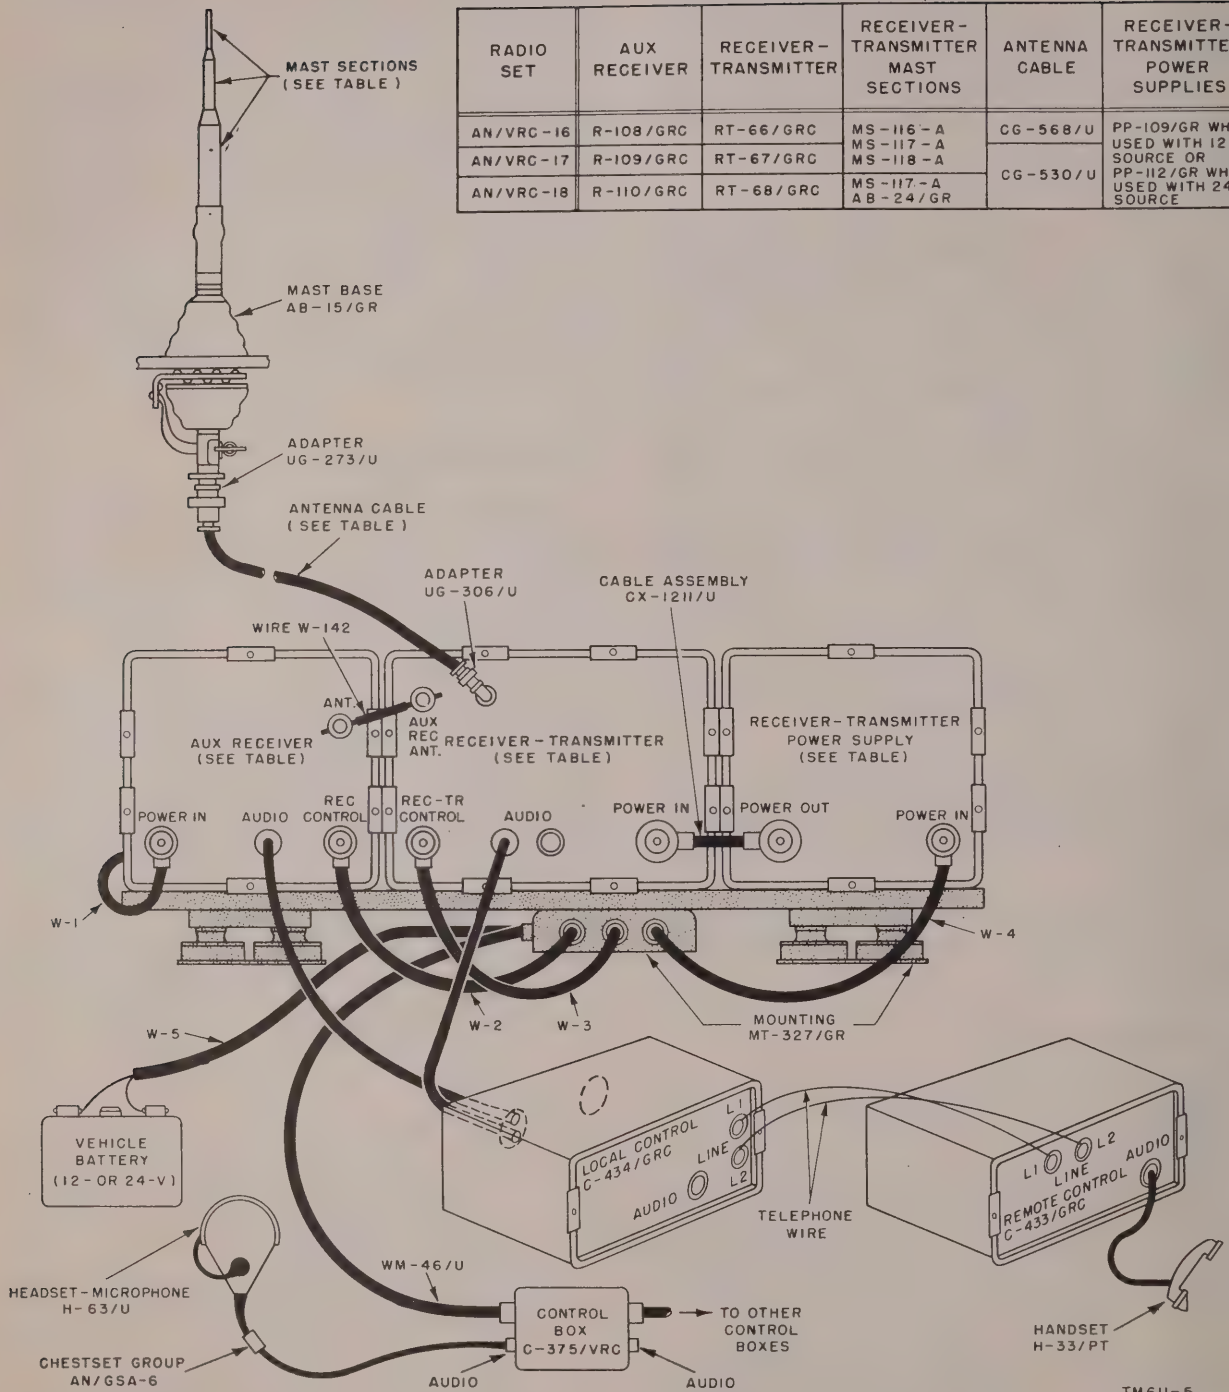

Figure 26. System cordage diagram.
(fig. 26)
c. Place and lock the receiver-transmitter on the mounting next to the power supply (fig. 26).
e. Place and lock the auxiliary receiver on the mounting beside the receiver-transmitter (fig. 26).
Make the system interconnections outlined below and illustrated in figure 26.
a. Connect Adapter UG-306/U to the ANT connector on the receiver-transmitter. Connect one end of the antenna cable (RF Cable Assembly CG-568/U or CG-530/U, as indicated in fig. 26) to the adapter, and connect the other end of the cable to the mast base.